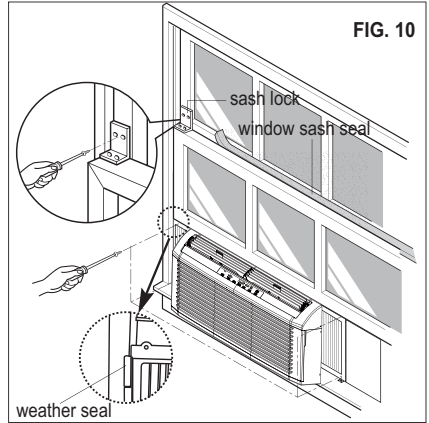

FIG. 10
Expand the filler panels and secure them using 4 screws as shown in FIG.10. When filler panels opens or closes, you may feel a slight resistance. This is normal.
- \* Cut the window sash seal to the window width. Stuff the window sash seal between the glass and the window to prevent air and insect from getting into the room, as shown in FIG.10.
- \* Trim the weather seal (6"X3/4"X1/2") to a proper length, peel off the protective backing and plug any gaps if needed as shown FIG.10.
- \* Install the sash lock bracket to prevent window from being raised which may result in unit falling, as shown in FIG.10.